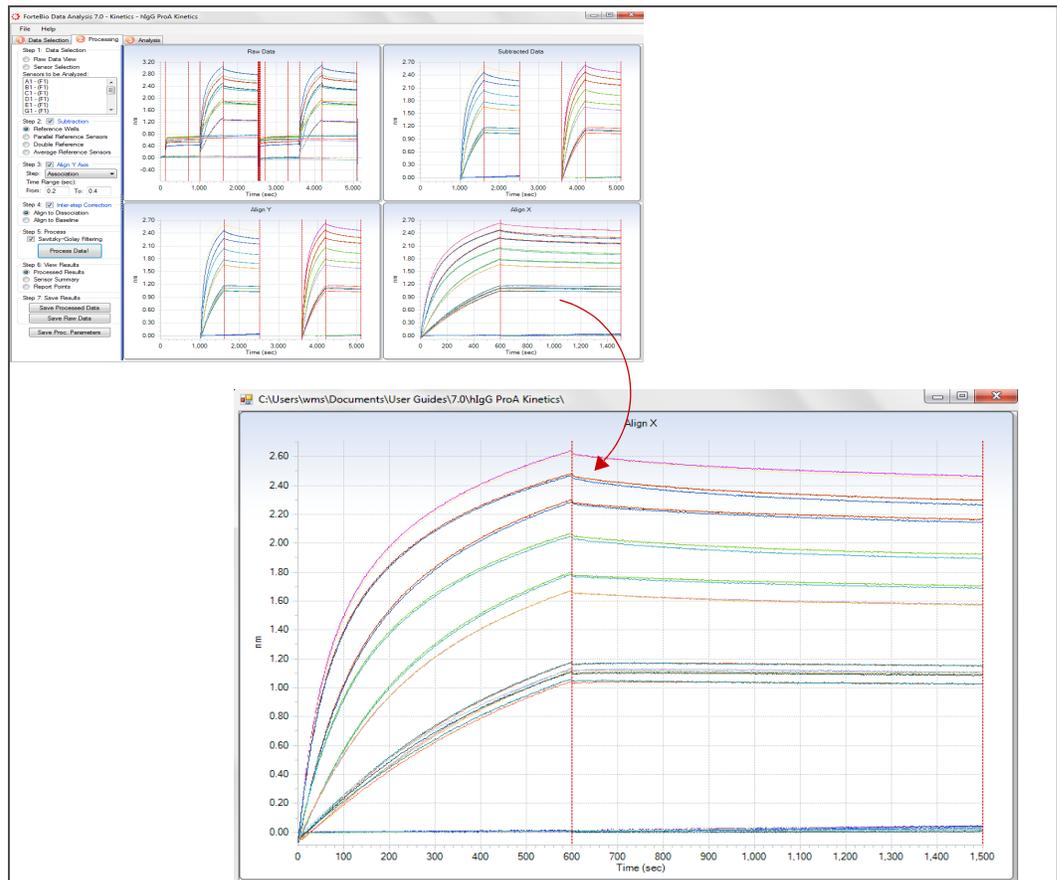

Figure 5-29: Double-click a Binding Chart to View it in a Separate Window
- Double-click a graph to display it in a separate window (Figure 5-29).
- Hover the cursor over a curve to highlight the curve and display a tooltip of the time (X axis) and nmshift (Y axis) at that point (Figure 5-29).